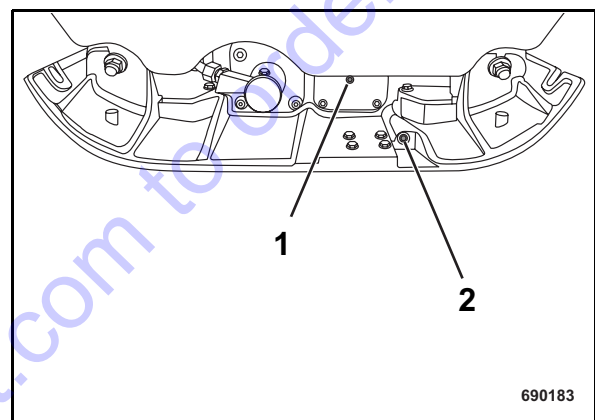

Fig. 54
- Unscrew the bleeding screw (1) (Fig. 54).
- Unscrew the oil drain plug (2) and check the oil level.